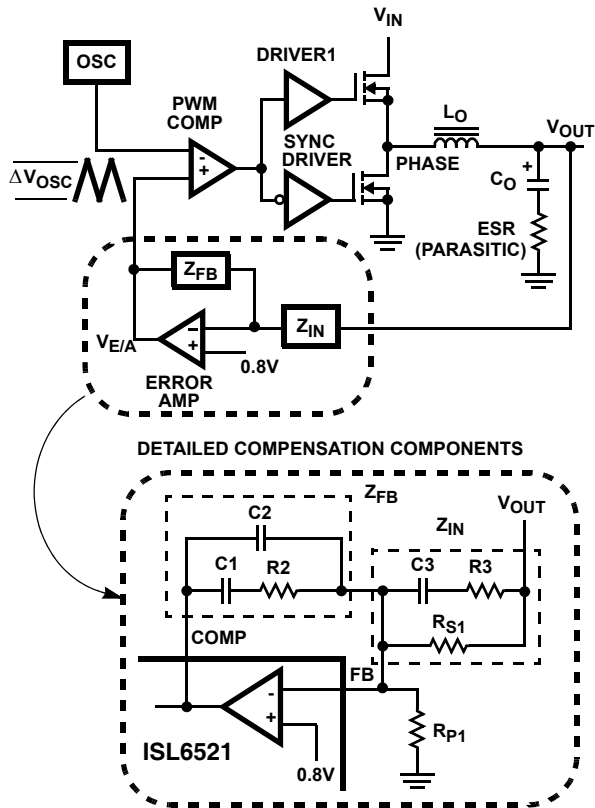
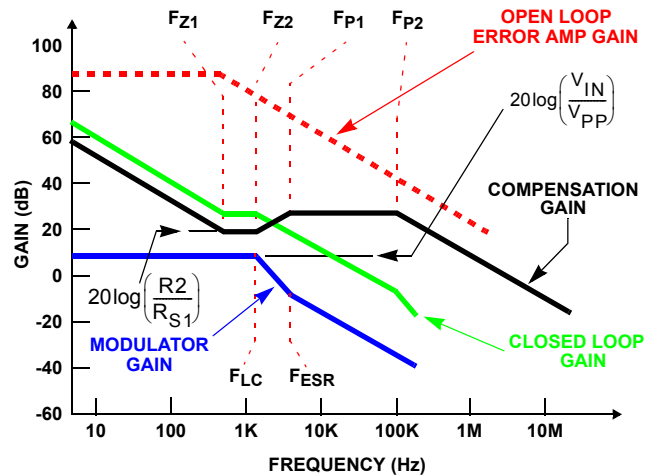

FIGURE 5. VOLTAGE-MODE BUCK CONVERTER COMPENSATION DESIGN
FIGURE 6. ASYMPTOTIC BODE PLOT OF CONVERTER GAIN
Figure 5 highlights the voltage-mode control loop for a synchronous-rectified buck converter. The output voltage (V_{OUT}) is regulated to the reference voltage level, 0.8V. The error amplifier (Error Amp) output ($V_{E/A}$) is compared with the oscillator (OSC) triangular wave to provide a pulse-width modulated (PWM) wave with an amplitude of V_{IN} at the PHASE node. The PWM wave is smoothed by the output filter (L_O and C_O).
The compensation network consists of the error amplifier (internal to the ISL6521) and the impedance networks Z_{IN} and Z_{FB} . The goal of the compensation network is to provide a closed loop transfer function with high 0dB crossing frequency (f_{0dB}) and adequate phase margin. Phase margin is the difference between the closed loop phase at f_{0dB} and 180 degrees. The equations below relate the compensation network's poles, zeros and gain to the components ($R1$, $R2$, $R3$, $C1$, $C2$, and $C3$) in Figure 5. Use these guidelines for locating the poles and zeros of the compensation network:
Figure 6 shows an asymptotic plot of the DC-DC converter's gain vs. frequency. The actual Modulator Gain has a high gain peak dependent on the quality factor (Q) of the output filter, which is not shown in Figure 5. Using the above guidelines should yield a Compensation Gain similar to the curve plotted. The open loop error amplifier gain bounds the compensation gain. Check the compensation gain at F_{P2} with the capabilities of the error amplifier. The Closed Loop Gain is constructed on the log-log graph of Figure 6 by adding the Modulator Gain (in dB) to the Compensation Gain (in dB). This is equivalent to multiplying the modulator transfer function to the compensation transfer function and plotting the gain.